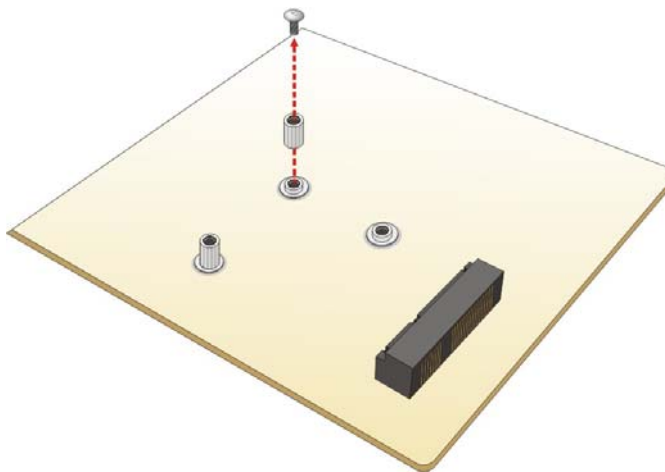

Figure 4-14: Removing Retention Screw and Standoff
Step 2: Remove the retention screw and the standoff. Remove the retention screw first, then unscrew and remove the standoff secured on the motherboard. See Figure 4-14.